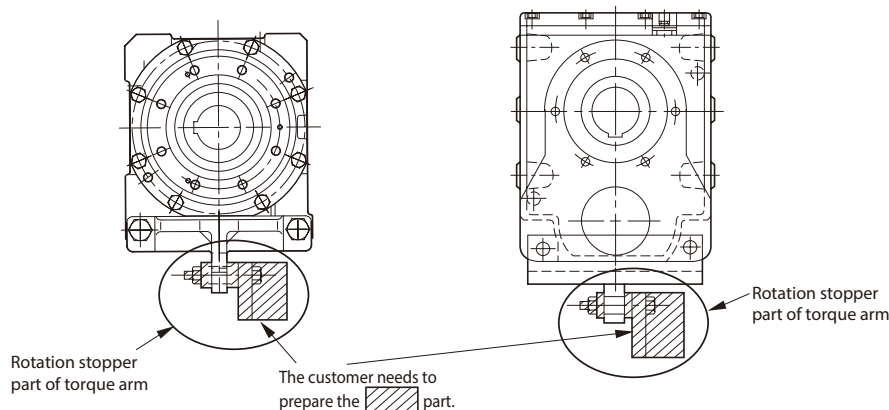

Figure 5-11 Example of Rotation Stopper (Attachment Type Torque Arm)
(4) Mounting the Torque Arm (Optional)
- [2] Provide a degree of freedom to the rotation stopper part of the torque arm (see Figure 5-11) to prevent excessive force from being applied between the casing and the driven shaft. (The customer needs to prepare the rotation stopper part.)